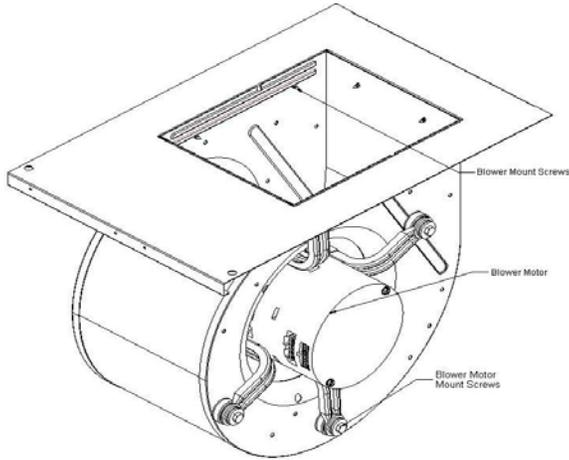

Figure 26: Blower Assembly and Blower Deck
- 4 Remove the two screws on the right side and the two screws on the left side of the blower mounting plate. Refer to Figure 26 for screw locations.
- 7 Remove the blower motor from the blower housing by removing the three (3) screws on the sides of the housing that secure the blower to the housing
- 8 Place the motor into the housing so the mount leg holes line up with the rivet nuts in the housing. Place the three (3) screws into the mount leg holes and tighten until the mount legs are securely fastened to the housing.